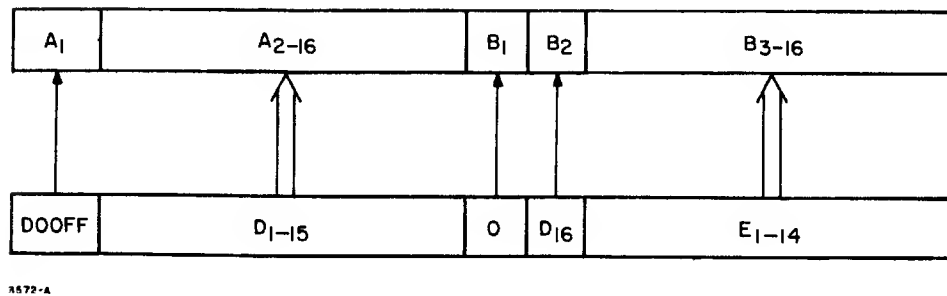

Figure 5. Forming the Product, MADFF Reset
Assume that the contents of the shift register are now equal to octal 77. This causes the sign of the remainder to be stored in the A00FF and the B-register to be shifted left. The B-register, but not the A-register, is shifted to fill the previously ignored bit 1 position of the B-register. Next, the remainder is examined (REMOK). Either of two conditions leads to the setting of the MADFF. They are (D) = 0, or (D)₁ = (AZ) = 0. Figure 5 illustrates the possible combinations of remainder and dividend and the action required, if any, to terminate in a proper divide.